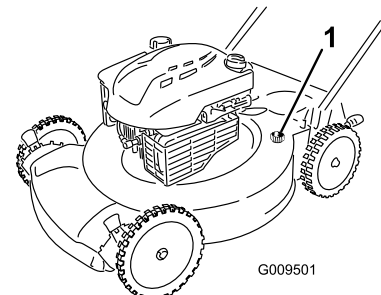

Figure 32
4. Attach a garden hose that is connected to a water supply to the washout port on the machine (Figure 32).